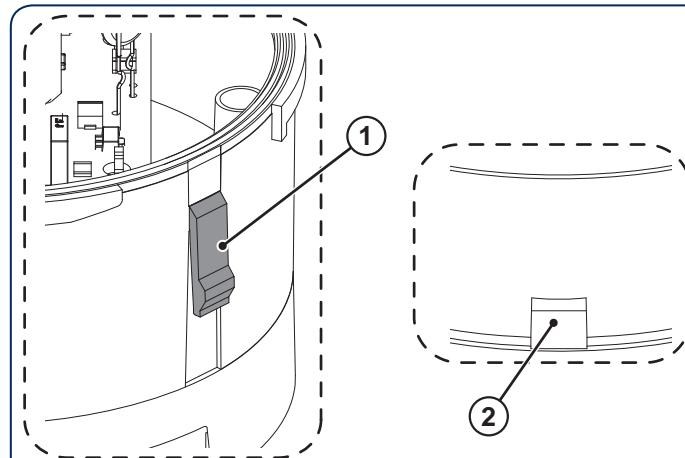

Fig. 10
⚠ On the base of the cover there is a locking tab (Fig. 10 ref. ①) which must couple with the opening made in the cover (Fig. 10 ref. ②).